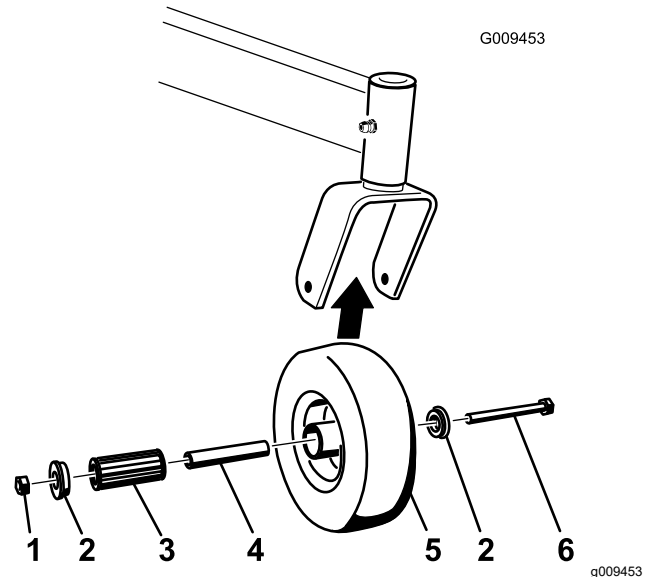

Figure 57
1. Remove the locknut and wheel bolt holding the caster wheel to the caster fork (Figure 57).
2. Remove 1 bushing, then pull the spanner bushing and roller bearing out of the wheel hub (Figure 57).
3. Remove the other bushing from the wheel hub and clean any grease and dirt from the wheel hub (Figure 57).
Note: Replace any damaged or worn parts (Figure 57).
5. Place 1 bushing into the wheel hub (Figure 57).
6. Grease the roller bearing and spanner bushing, and slide them into the wheel hub (Figure 57).
7. Place the second bushing into the wheel hub (Figure 57).
8. Install the caster wheel into the caster fork and secure it with the wheel bolt and locknut (Figure 57).
9. Tighten the locknut until the spanner bushing bottoms against the inside of the caster forks (Figure 57).